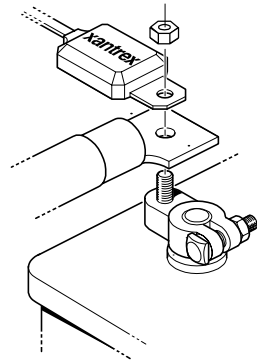

Figure 10 BTS Mounted on the Negative Battery Terminal
See Figure 10.
6. Mount the sensor directly on top of the ring terminal, as shown in Figure 10, and firmly tighten the terminal nut.